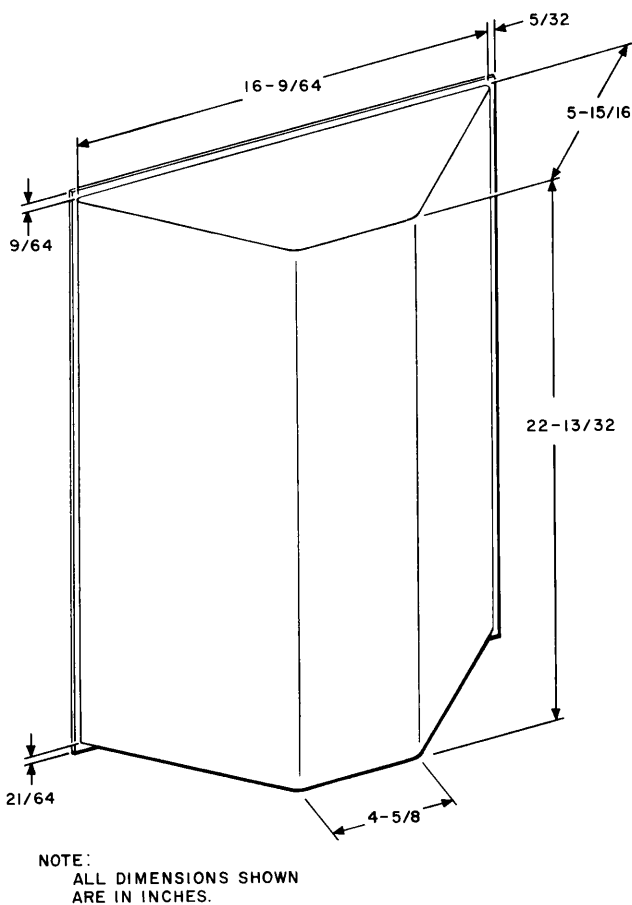

Fig. 1—Rear View Showing Dimensions
1.02 Overall dimensions of the coin telephone are shown in Fig. 1.
- 2.05** When installing the 2A-type coin telephone in a wall, observe the dimensions shown in Fig. 1 before cutting a hole.